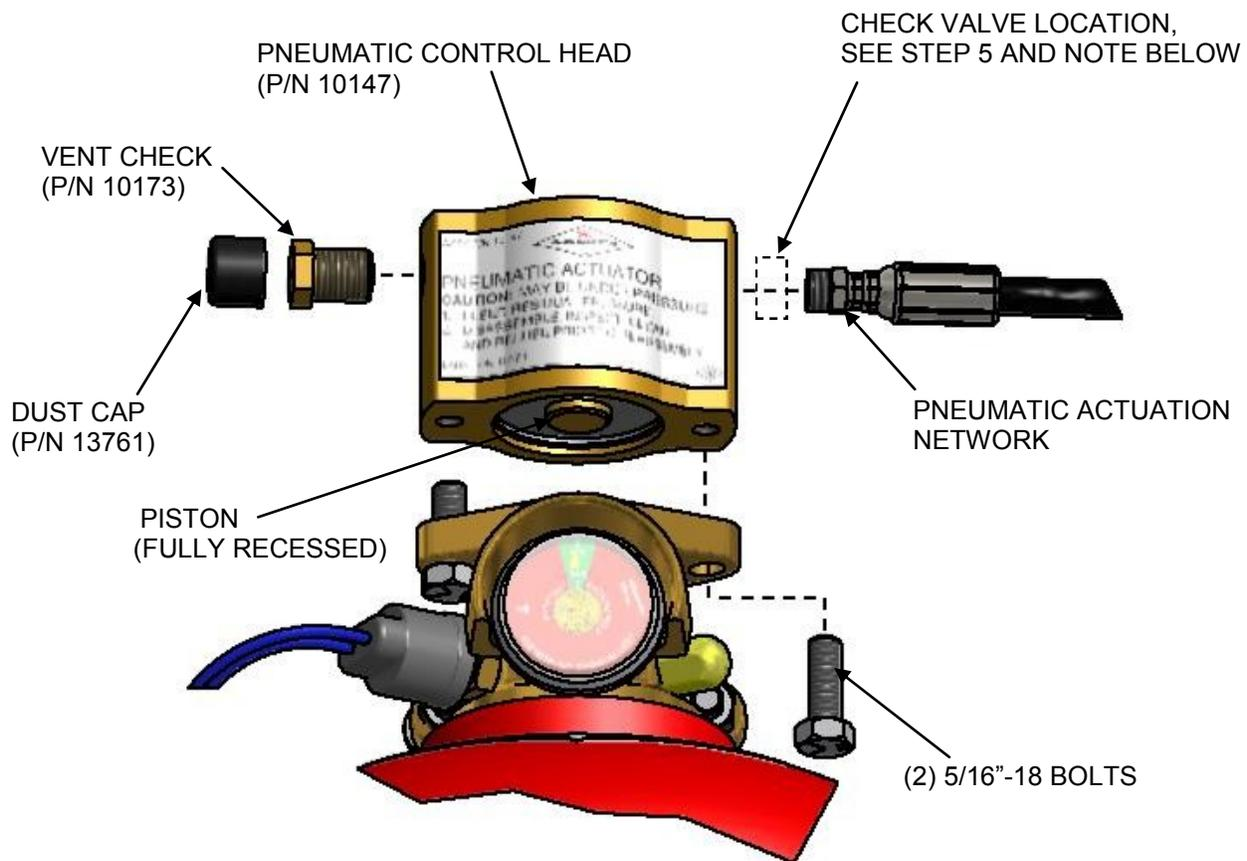

Figure 4.6.3
4. Install (2) bolts retained from step 1 as shown. Use medium grade thread locking compound and torque to 10 ft-lbs.
5. Install 1/4" NPT Pneumatic Actuation Network (See Section 4.7). Use PTFE thread tape. Tighten a minimum of two turns past hand tight. For Pneumatic Control Heads using a Pneumatic Piston Assembly with locking Spring Plunger, a Check Valve is not required (See Note under Figure 4.6.3).
**NOTE:** Earlier versions of Pneumatic Control Heads (P/N 10147) were NOT equipped with a locking Spring Plunger on the internal Pneumatic Piston Assembly (See Figure 6.2.1.1). When using these older versions, a Check Valve (P/N 10262) is required at the inlet of EVERY Pneumatic Control Head used in an Amerex Dry Chemical System where shown in Figure 4.6.3. The only way to verify that a newer version control head is being used, which contains a locking Spring Plunger, is to perform the test described in Section 6.2.1.1, Step 16. If the locking Spring Plunger exists and locks the deployed piston when performing the test, no Check Valve is required at the control head inlet.